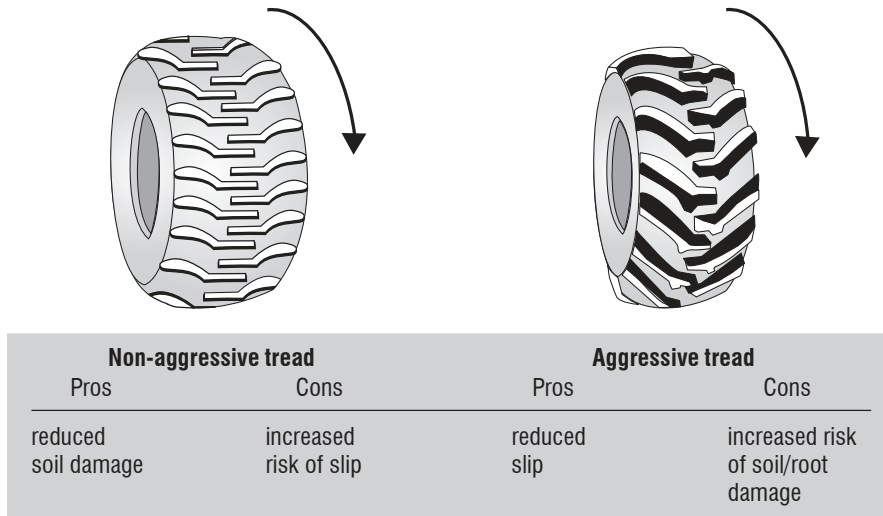

Figure 20. Tread depth affects wheel slip.
- Tread or lug depth affect slip. Deeper or aggressive lugs can offer better traction. However, deeper lugs give higher resistance to rolling such that overall traction may not be improved compared to tires with less aggressive lugs (Figure 20).